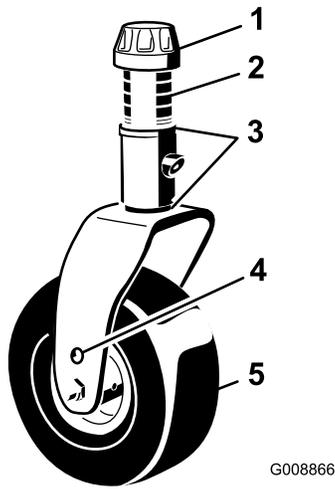

Figure 20
- Remove the tensioning cap from the spindle shaft and slide the spindle out of the caster arm (Figure 20).